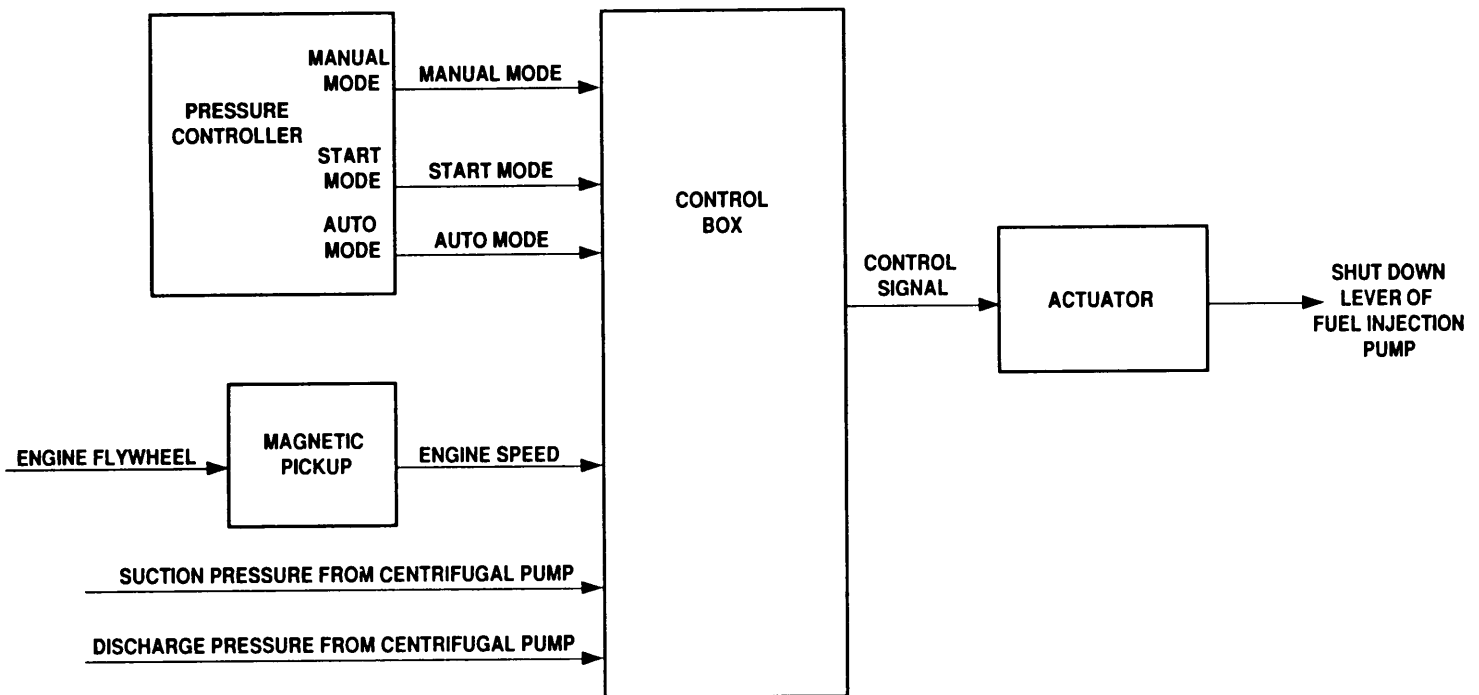

Figure 1-10. Regulator Assembly Functional Block Diagram.
1.14.2.7 Regulator Assembly. The regulator assembly (figure 1-10) provides feedback from the output of the pump. This feedback controls the speed of the engine by transmitting electrical signals to a magnetic pick-up and control box. It consists of a pressure controller, control box, magnetic pickup and actuator.